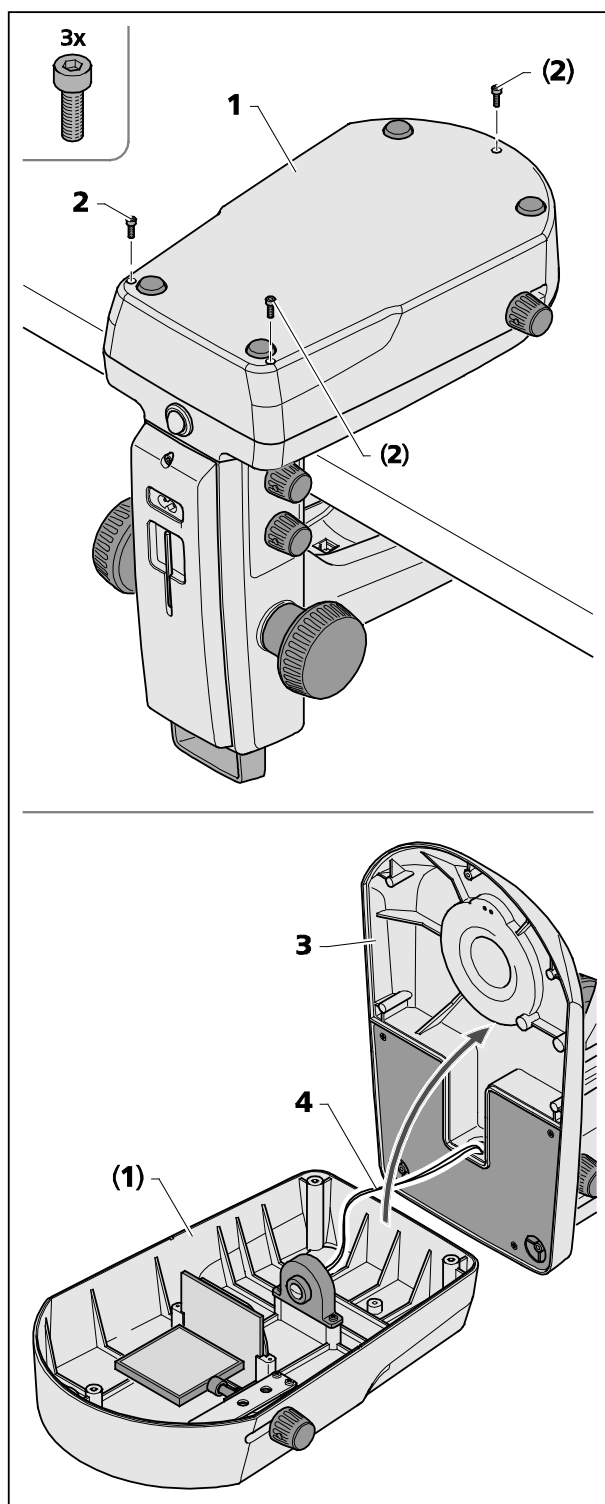

Fig. 24 Opening the stand cover plate,
The transmitted-light base (Fig. 24/1) can be removed from the stand cover plate (Fig. 24/3) for cleaning or for removal of any foreign matter which might have fallen in inadvertently.
- Release the three screws (Fig. 24/2) from the stand cover plate (Fig. 24/1) using an Allen key SW 2.5 and put them aside.
- Carefully lift the stand cover plate (Fig. 24/3) off the transmitted-light base (Fig. 24/1) and put the stand aside.
Make sure that the cable (Fig. 24/4) is not disconnected from the transmitted-light base (Fig. 24/1).